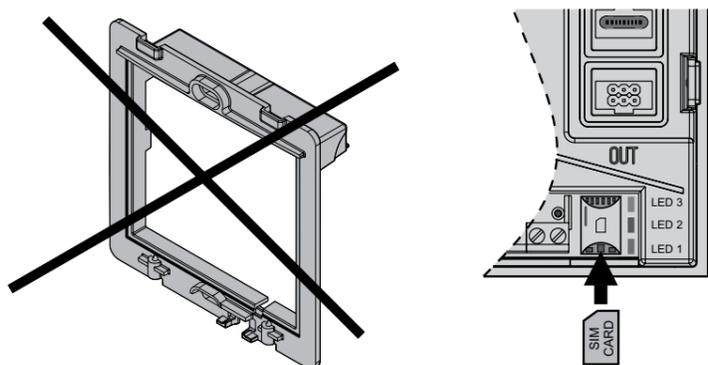

Fig. 13a
**!** To insert or remove the SIM card the module AB14G should not be assembled with its frame, please see figure 13a e 13b.